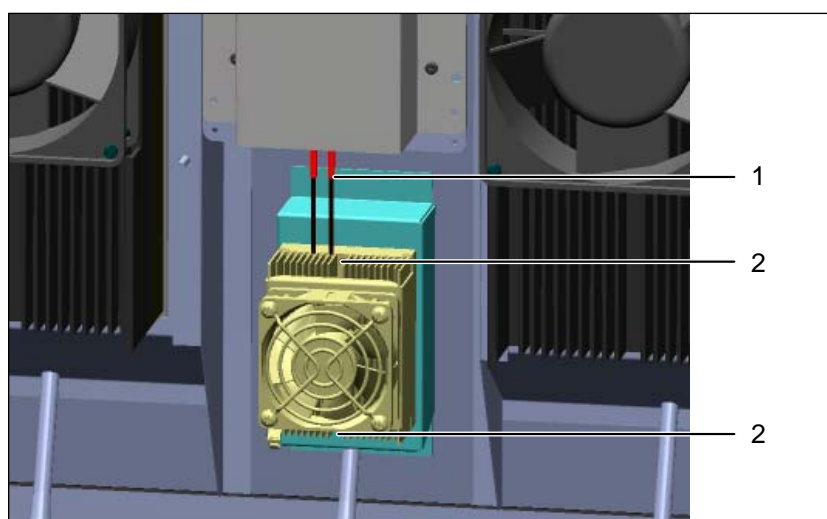

Fig. 28: Replace the dehumidification Peltier module with fan
2. Check that the fan of the dehumidification Peltier module on the rear side of the appliance is running (Fig. 28). If this is not the case, the fan is faulty and needs to be replaced, along with the Peltier module (see next section).